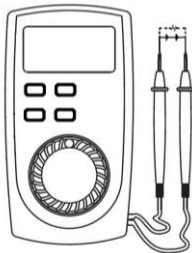

Figure 3
#### A. DC Voltage Measurement (see Figure 3)
**B. AC Voltage Measurement** (see Figure 3 with dotted line)**⚠Warning**